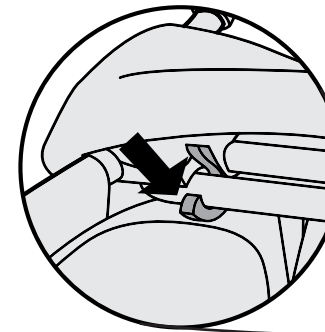

Figure 3
3. Squeeze frame tubes together to latch securely in place (Figure 3).